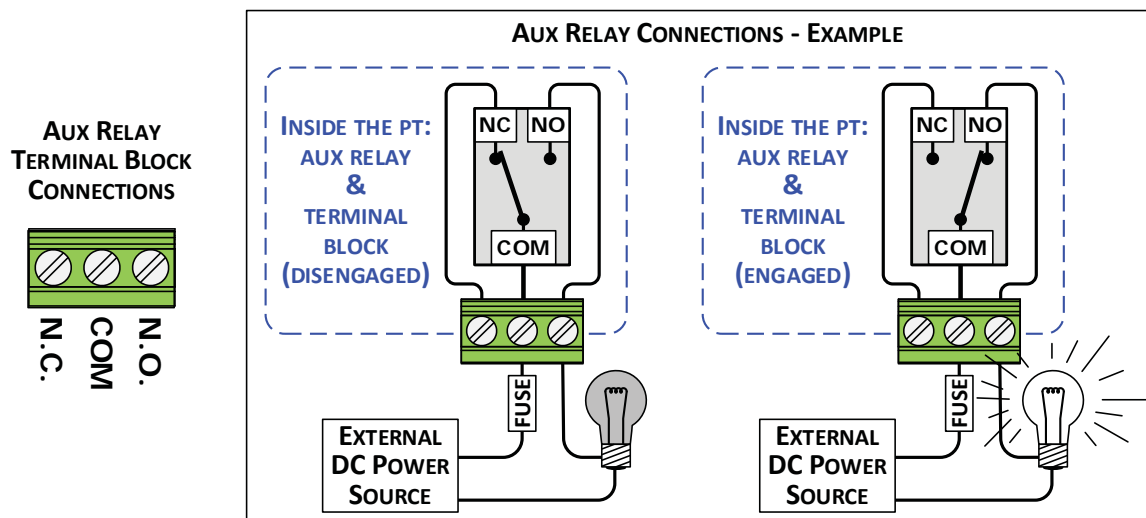

Figure 2-20, Auxiliary Relay Connections and Example
When configured as a network controller, this relay can indicate when a PT controller fault has occurred and can also be programmed to automatically engage or disengage based on high or low battery voltage. For example, this relay can be used to drive a relay for DC load control, or to turn on devices such as a battery compartment vent fan or a DC indicator light (see Figure 2-20). For more information on the relay's operation, refer to Section 4.10.
- The relay is a single-pole, double-throw (SPDT) relay provided with the NC (Normally Closed), COM (common), and NO (Normally Open) contacts (see Figure 2-20).